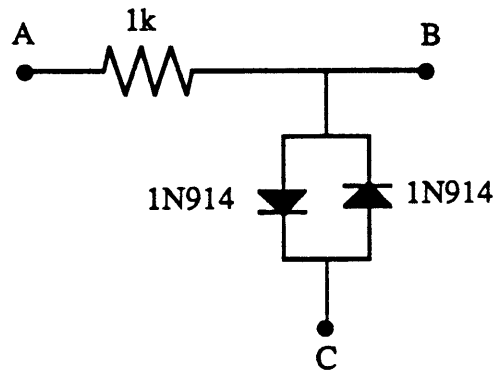

Figure 5.9
The final circuit we will examine is the diode limiter of Figure 5.9.
- (1) Build the circuit shown in Figure 5.9.
- (2) Adjust your signal generator to 0.5 volts p-p output (0 volts DC) at 1 kHz. Connect your signal generator output to point A. Connect the COM to point C.
- (3) Connect your scope CH1 input to point B. Record the waveform you see at point B in Table 5.16
9. Explain why the circuit of Figure 5.9 resulted in the performance you recorded in Table 5.16.